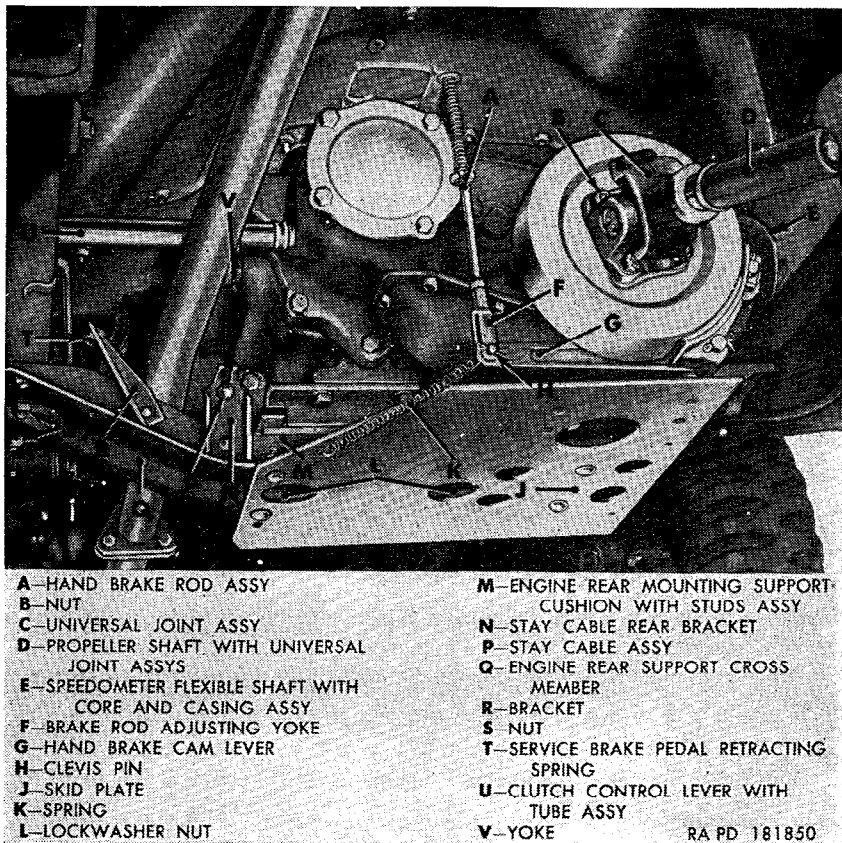

Figure 58. Power plant removal—disconnect points under vehicle.
Note. The key letters noted in parentheses refer to figure 58, except where otherwise indicated.
- (1) Connect a suitable lifting device to the rear eye of the lifting hook. Carefully raise the engine sufficiently to lift the engine front mounting support cushion assemblies from the brackets on the frame.
- (2) Using a pry bar, slide the power plant rear toward the vehicle right side until the clutch control lever with tube assembly (U, fig. 58) is off the control lever tube ball stud on the transfer.
- (3) Raise the power plant sufficiently to clear the frame front cross member, and roll the vehicle back while guiding the power plant out of the vehicle. Place the power plant on a suitable stand.
- (1) Connect a suitable lifting device to the lifting hook rear eye. Raise the power plant sufficiently to clear the frame front cross member.
- (2) Roll the vehicle forward and lower the power plant into the engine compartment, tilting the power plant rear end down. Place a jack under the clutch bell housing and raise the power plant rear end sufficiently to aline the transfer ball stud with the clutch control lever with tube assembly (U, fig. 58).
- (3) Using a pry bar, slide the power plant to the left and guide the control lever onto the ball stud.